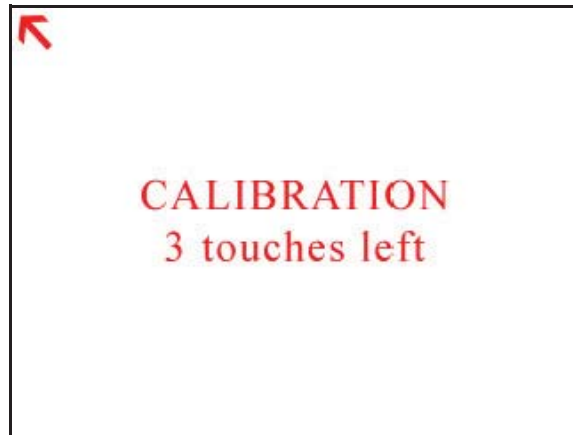

Figure 6-15 Alignment Step 3
- Carefully touch the arrow tip as shown in Figure 6-15.